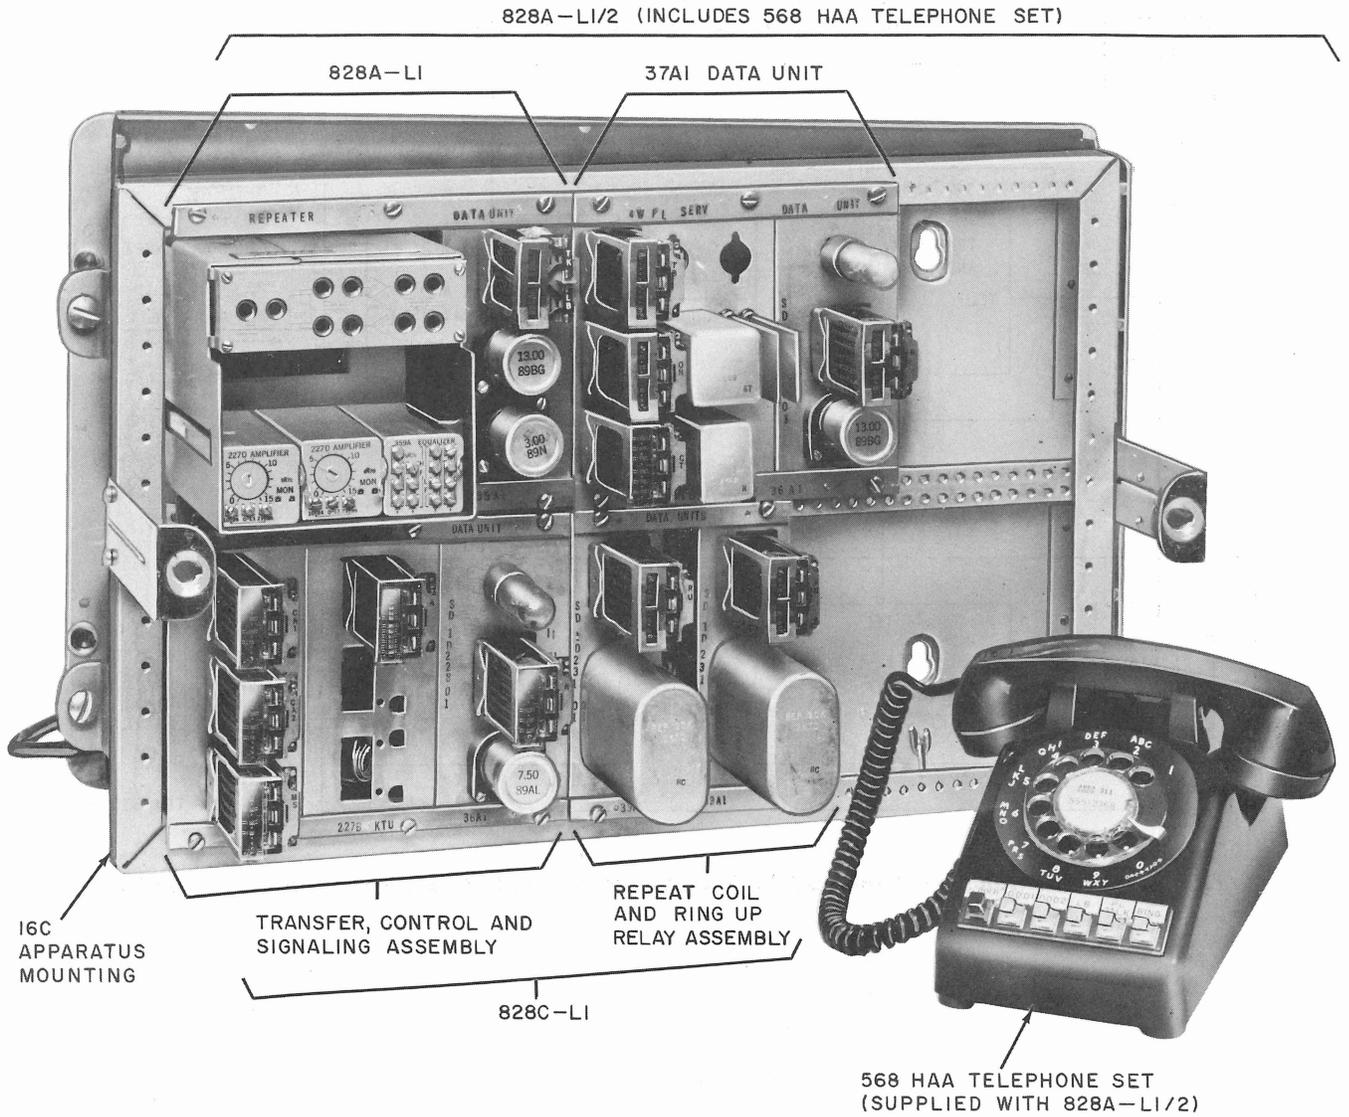

Fig. 5—Front View of DAS 828C-L1 and 828A-L1/2 Shown With Locally Supplied Plug-In Units
2.10 A complete installation for 4W FDA with DDD backup, consisting of an 828A-L1/2 and 828C-L1 mounted on a 16C apparatus mounting, is shown in Fig. 5. The plug-in units shown are typical. However, they are not supplied with the 828A and 828C and must be selected and ordered separately. See Table B.
2.11 The 568HAA-3 telephone set (shown in Fig. 5 and 6) is supplied with DAS 828A-L1/2 or -L1A/2 and is used at station locations arranged for FDA and DDD backup. For stations not arranged